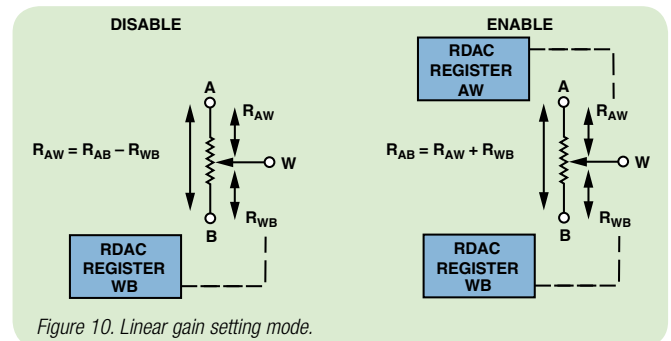

Figure 10. Linear gain setting mode.
- The new patented linear gain setting mode allows controlling the potentiometer as two independent rheostats,  $R_{AW}$  and  $R_{WB}$ , connected in a single point, W terminal (see Figure 10). This mode is ideal in equations where the output depends on the ratio of two resistors,  $G = R1/R2$ , for example, in an inverting amplifier. This mode can be found in the AD5141, offering a maximum ratio error below  $\pm 1\%$ .